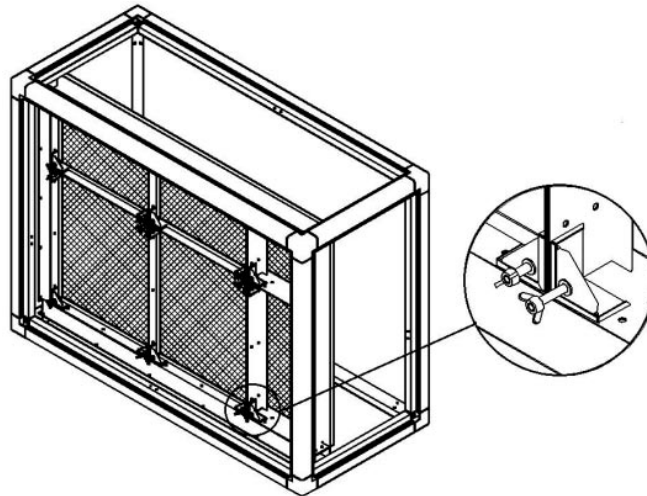

Figure 3.30 Bolt-Type Filtering Framework
- 2) Bolt-type filter frame (Figure 3.30): First loosen the bolt, then put the filter in place and tighten the bolt